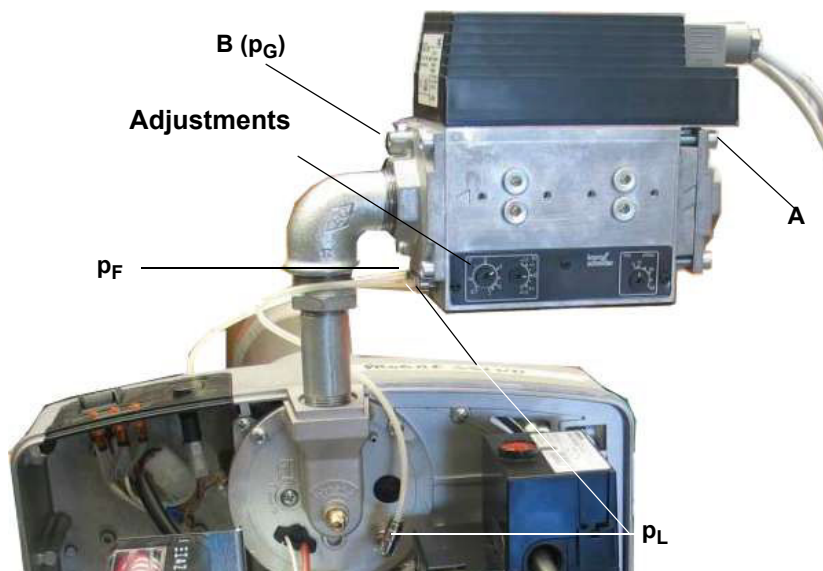
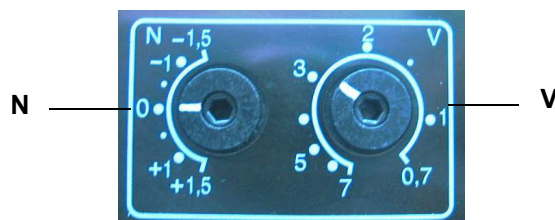

Fig. 22
Fig. 23
Transmission ratio **V** (see pictures Fig. 22 - Fig. 23)
- 1 Start burner with low fire: if the burner does not start, turn **N** (see picture Fig. 23) slightly in the direction + and repeat the start.
- 2 Test gas pressure p_G at **B** (see picture Fig. 22).
- 3 Test air pressure p_L (see picture Fig. 22) at the burner and adjust the gas pressure at **N** according to the specifications of the burner manufacturer.
- 4 Set the burner gradually to high fire and adjust the gas pressure at **V** (see picture Fig. 23) in accordance with the boiler input.
- 9 Repeat analysis with low and high fire; if necessary, correct **N** and **V** (see picture Fig. 23) .
Do not block connection p_F if not used (see picture Fig. 22).
V = Do not set transmission ratio to high! The gas pressure at **B** is smaller than the gas pressure at **A** (see picture Fig. 22) minus the
- 2 Measure the gas pressure at **A** and **B** (see picture Fig. 22).